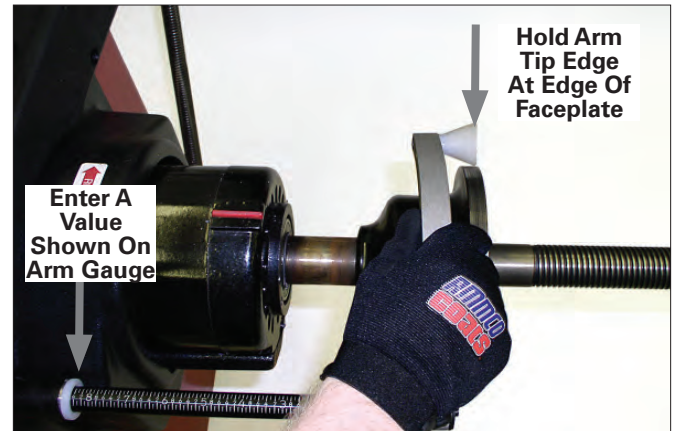

Figure 3 - While Holding Arm at Faceplate Edge, Enter A
12. With arm still at the edge of the faceplate, enter the A dimension (include decimal point) read off the arm gauge; see figure 3. Press ENTER.